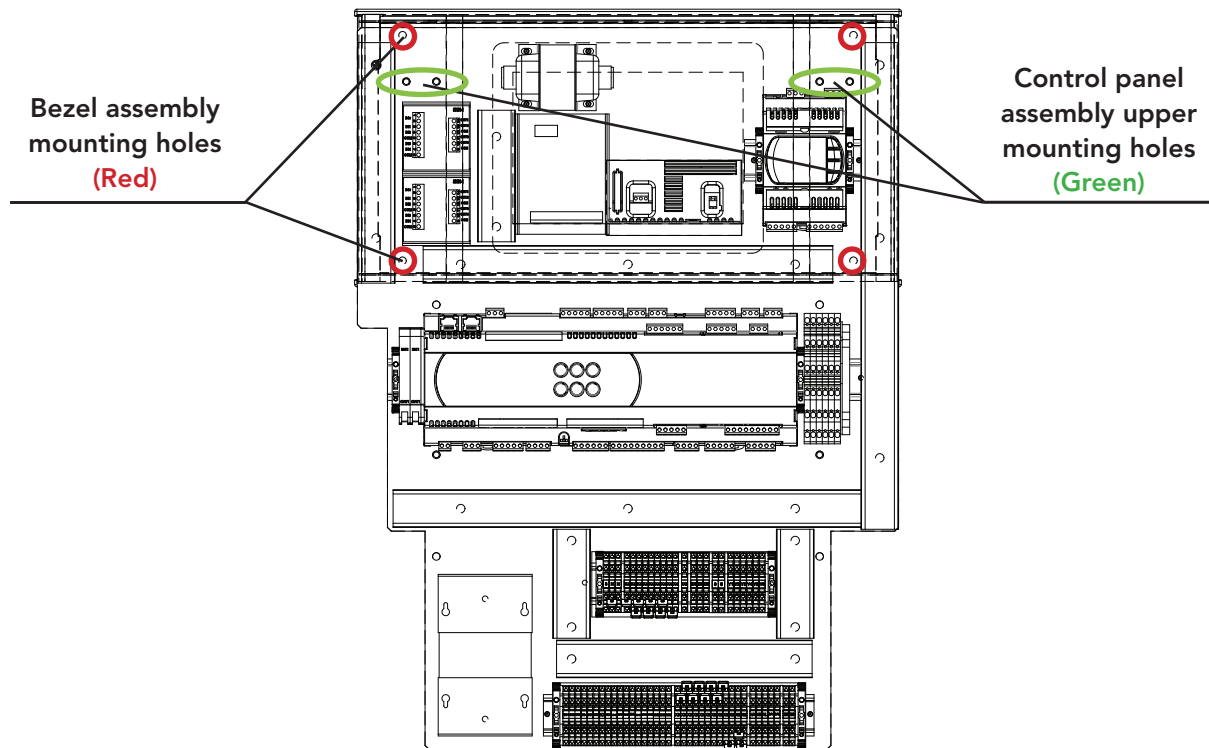

Figure 7
- 9. Using pre-drilled holes (Figure 7), place new control panel assembly on threaded studs after cover panel and mount using hardware removed from old controller panel in step four. Do not over tighten.
- 10.** Locate the four pre-drilled bezel assembly mounting holes on new control panel assembly (Figure 7). Drill through control panel door using a 3/16" drill bit and the bezel mounting holes as a guide.